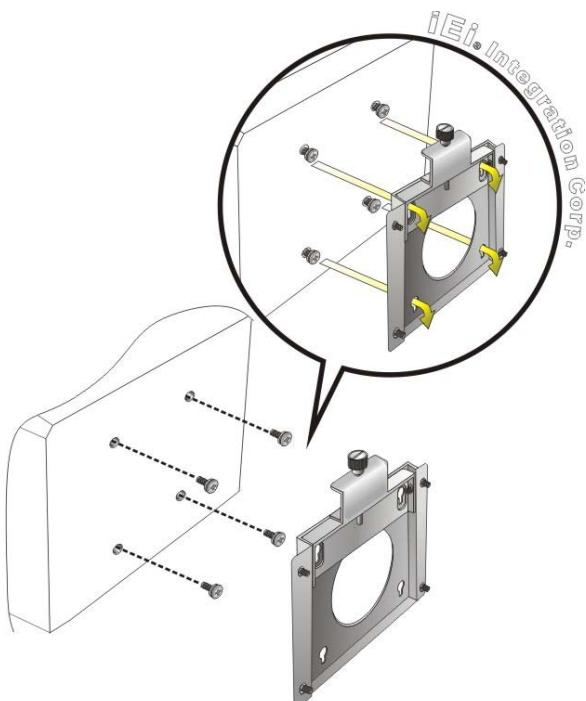

Figure 3-22: Chassis Support Screws
Step 6: Insert the four monitor mounting screws provided in the wall mount kit into the four screw holes on the real panel of the flat bezel panel PC and tighten until the screw shank is secured against the rear panel (**Figure 3-22**).
Step 8: Carefully insert the screws through the holes and gently pull the monitor downwards until the monitor rests securely in the slotted holes (**Figure 3-22**).